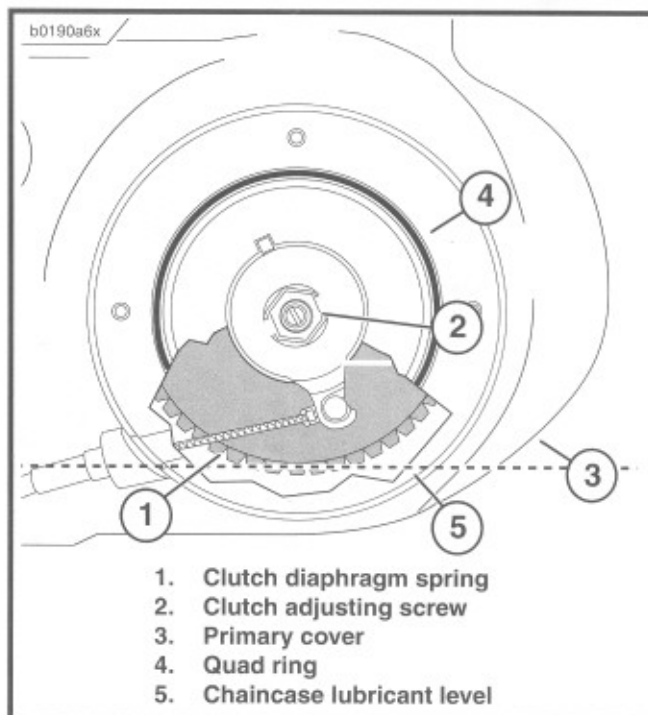

Figure 6-16. Chaincase Lubricant Level
6. See Figure 6-16. Verify that lubricant level (5) is even with bottom of clutch diaphragm spring (1).